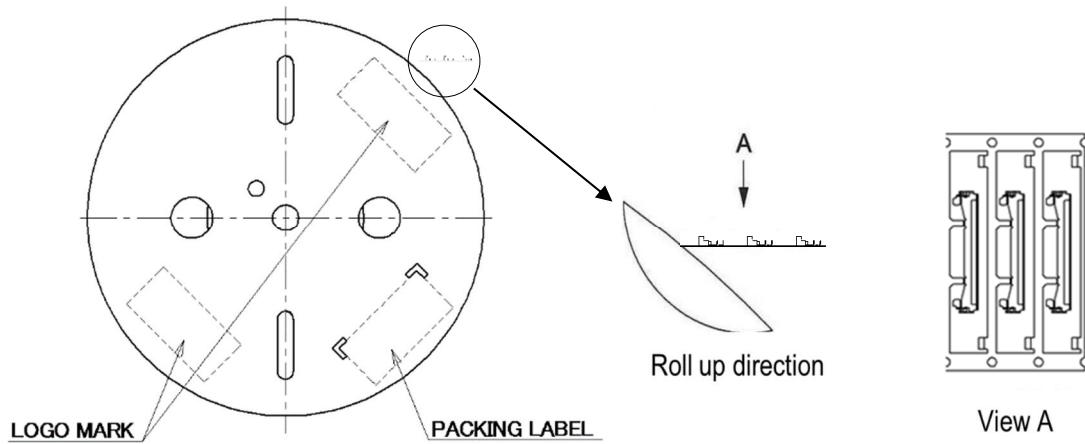

Fig.1
- (1) Coiling of shell to reel follow as shown Fig.1.
- (2) Coiling quantity. is 4000 in reel.